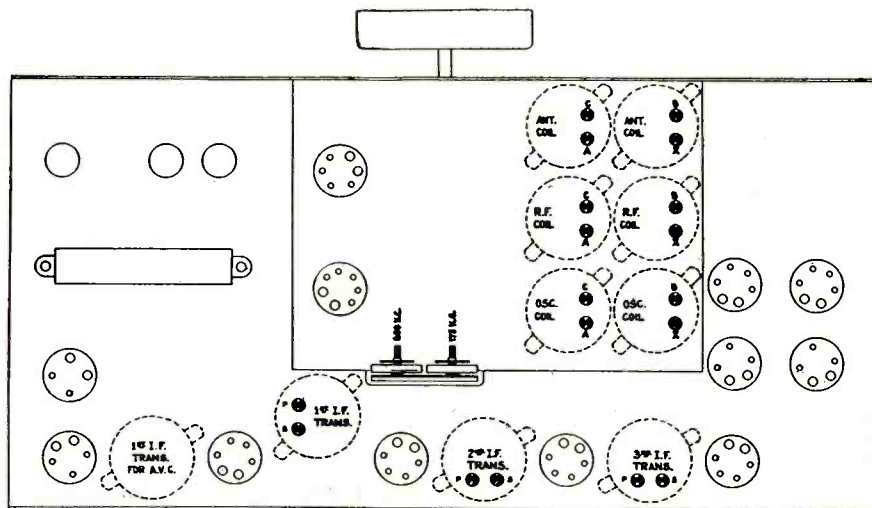

Fig. 5. Location of various trimmer capacities.
(1) Connect the output of an external oscillator tuned to 460 kc between the first detector grid and ground. Connect the output indicator across the voice coil of the loudspeaker. Replace the avc tube in the receiver with the "dummy" 76.
(2) Place the oscillator in operation at 460 kc; place the receiver in operation and adjust the station selector until a point is reached (Band A) where no signals are heard and turn both the volume and sensitivity controls to their maximum position. Reduce the oscillator input until a slight indication is obtained in the output indicator.
(3) Refer to Fig. 5. Adjust each trimmer of the i-f tuning capacitors until a maximum output is obtained. Go over the adjustments a second time.
Fig. 5 shows the location of the trimmers for each band. Care must be exercised to only adjust the trimmers in the band under test.
(1) The oscillator series capacitor, marked 175 kc, Fig. 5, is first tightened to near its maximum capacity position (screwed "in").
(2) Tune the external oscillator to 410 kc, set the pointer at 410 kc and adjust the oscillator, detector and r-f trimmers for maximum output.
(3) Shift the external oscillator to 175 kc. Tune in the 175 kc signal irrespective of scale calibration and adjust the series trimmer marked 175 kc on Fig. 5, for maximum output, at the same time rocking the variable tuning capacitor. Then readjust at 410 kc as described in (2).
marked 600 kc, Fig. 5, should be set at about the center of its range.
(2) Tune the external oscillator to 1720 kc, set the pointer at 1720 kc, and adjust the oscillator, detector and r-f trimmers for maximum output.
(3) Shift the external oscillator to 600 kc. Tune in the 600 kc signal irrespective of scale calibration and adjust the series trimmer, marked 600 kc on Fig. 5, for maximum output, at the same time rocking the variable tuning capacitor. Then readjust at 1720 kc as described in (2).